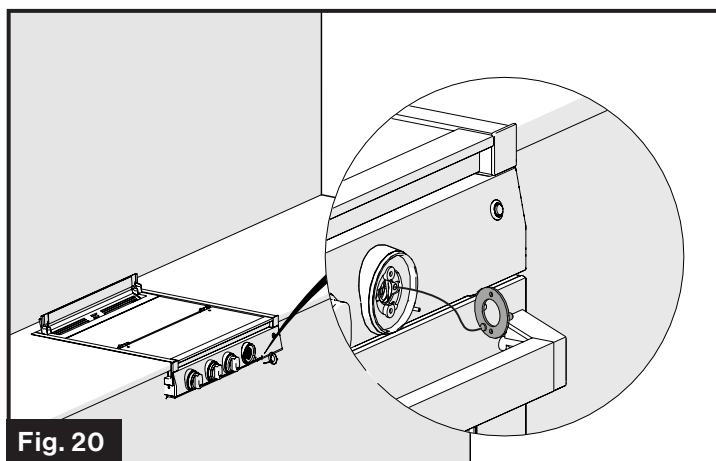

Fig. 20
4. Remove the LED assembly and disconnect the wire from the base of the LED assembly. (Fig. 20)